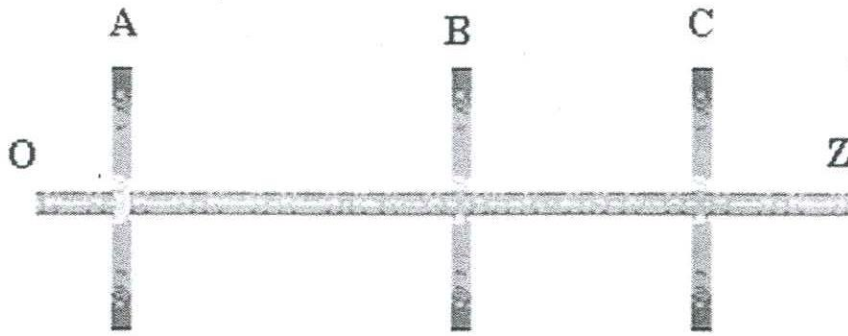

Figure Q2(b): A rigid rotor
- ii) A rigid rotor shown in Figure Q2(b) carries three thin discs A, B, and C with diameters d_1 , d_2 , and d_3 and masses m_1 , m_2 , and m_3 respectively. The discs are mounted on an L long shaft. Take $OA=L_1$, $OB=L_2$, $OC=L_3$. All are in SI units. Derive mathematical expressions to be satisfied to achieve complete mechanical system balance stated in above b) i).
- c) Given that the rigid rotor shown in Figure Q2(b) has following dimensions, $OA = 50$ mm, $OB = 600$ mm, $OC = 850$ mm and the shaft length is 1 m, and properties as given in Table Q2(b). Further, it is given that the rotor is suspended from a bearing at O with the other end unrestrained. Calculate the corrective balance needed to ensure that end Z does not move assuming that it can only be balanced on disc C.